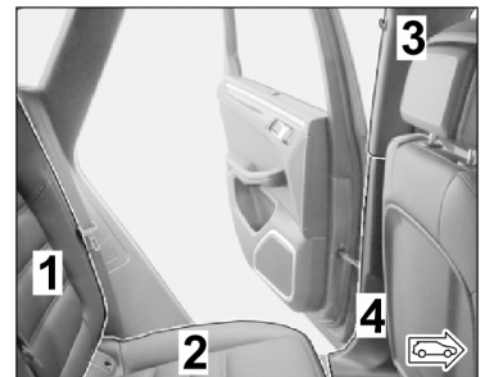

Figure 16
1.6.2 Detach/remove rear backrest (⇒ Figure 16 -1-) ⇒ Workshop Manual '724719 Removing and installing rear backrest'
1.6.3 Remove rear seat (⇒ Figure 16 -2-). ⇒ Workshop Manual '724819 Removing and installing rear seat'
1.6.4 Remove upper part of B-pillar trim panel (on driver's side ⇒ Figure 16 -3-). ⇒ Workshop Manual '706719 Removing and installing upper part of B-pillar trim panel'